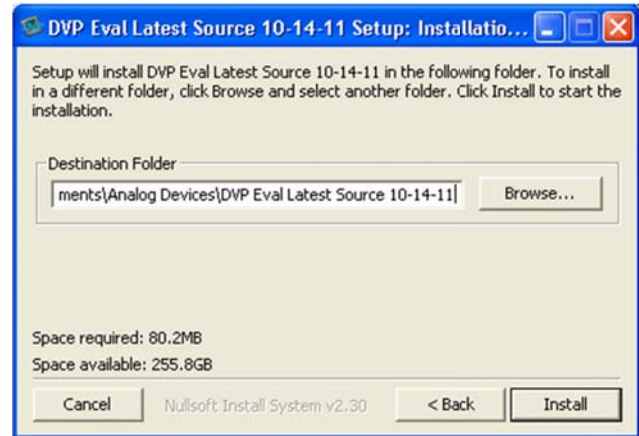

Figure 4. Installation Destination for the DVP Eval Software
4. Select an installation destination folder and click the **Install** button (see Figure 4). It is recommended to use the default destination folder. Selecting a different destination folder can cause compatibility issues with some versions of Windows® OS.